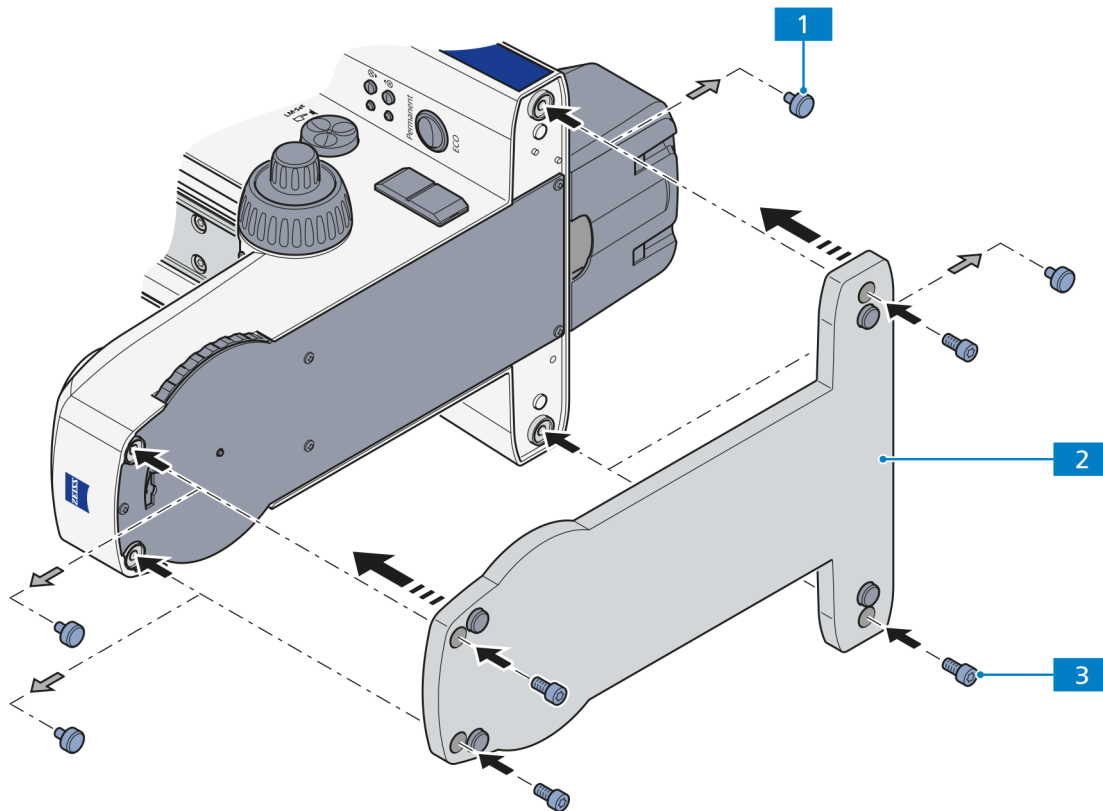

Fig. 3-28 Mounting the base plate
- Remove the four rubber feet (Fig. 3-28/1) from the bottom of the stand.
- Align the base plate (Fig. 3-28/2) with the stand and insert a hexagonal socket screw (M6) (Fig. 3-28/3) into each of the four holes in the base plate.